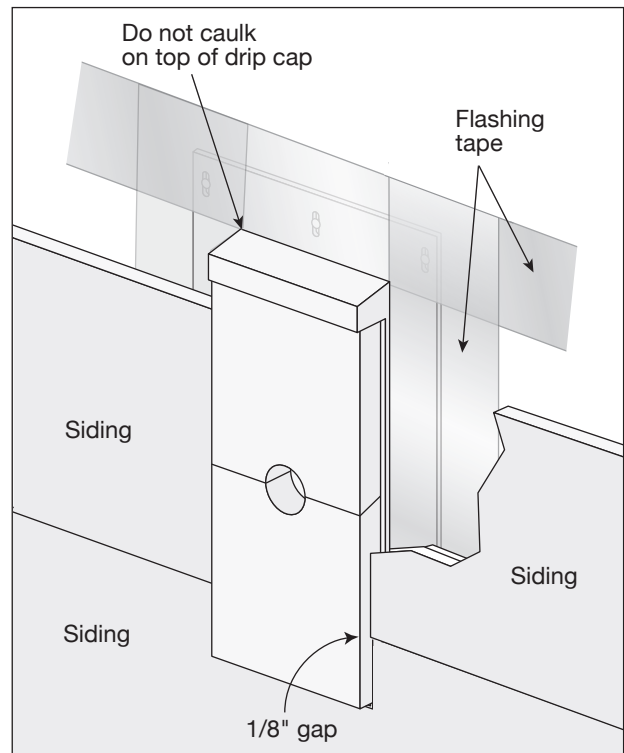

Fig. 27
- Trim each piece of siding to fit around the block, leaving a 1/8" gap around the edges (**Fig. 27**)